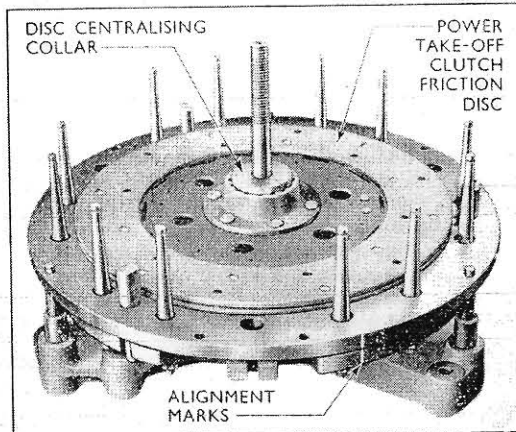

Fig. 5
3. Fit the centre drive plate over the three locating pegs with the spigoted side of the plate facing downwards, matching up the alignment marks made at the time of dismantling on the centre drive plate and transmission pressure plate, and locating the clutch driving pins in the slots in the transmission clutch pressure plate. (See Fig. 5.)
4. Install the power take-off clutch disc over the centre pillar and disc centralising collar T.7502-2/b, with the long boss on the disc hub facing upwards. (See Fig. 5.)